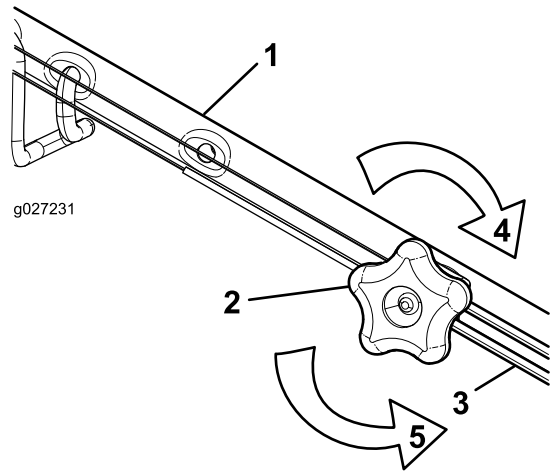

Figure 33
- Turn the adjustment knob counterclockwise to loosen the cable adjustment (Figure 33).
- Adjust the tension on the cable (Figure 33) by pulling it back or pushing it forward and holding that position.